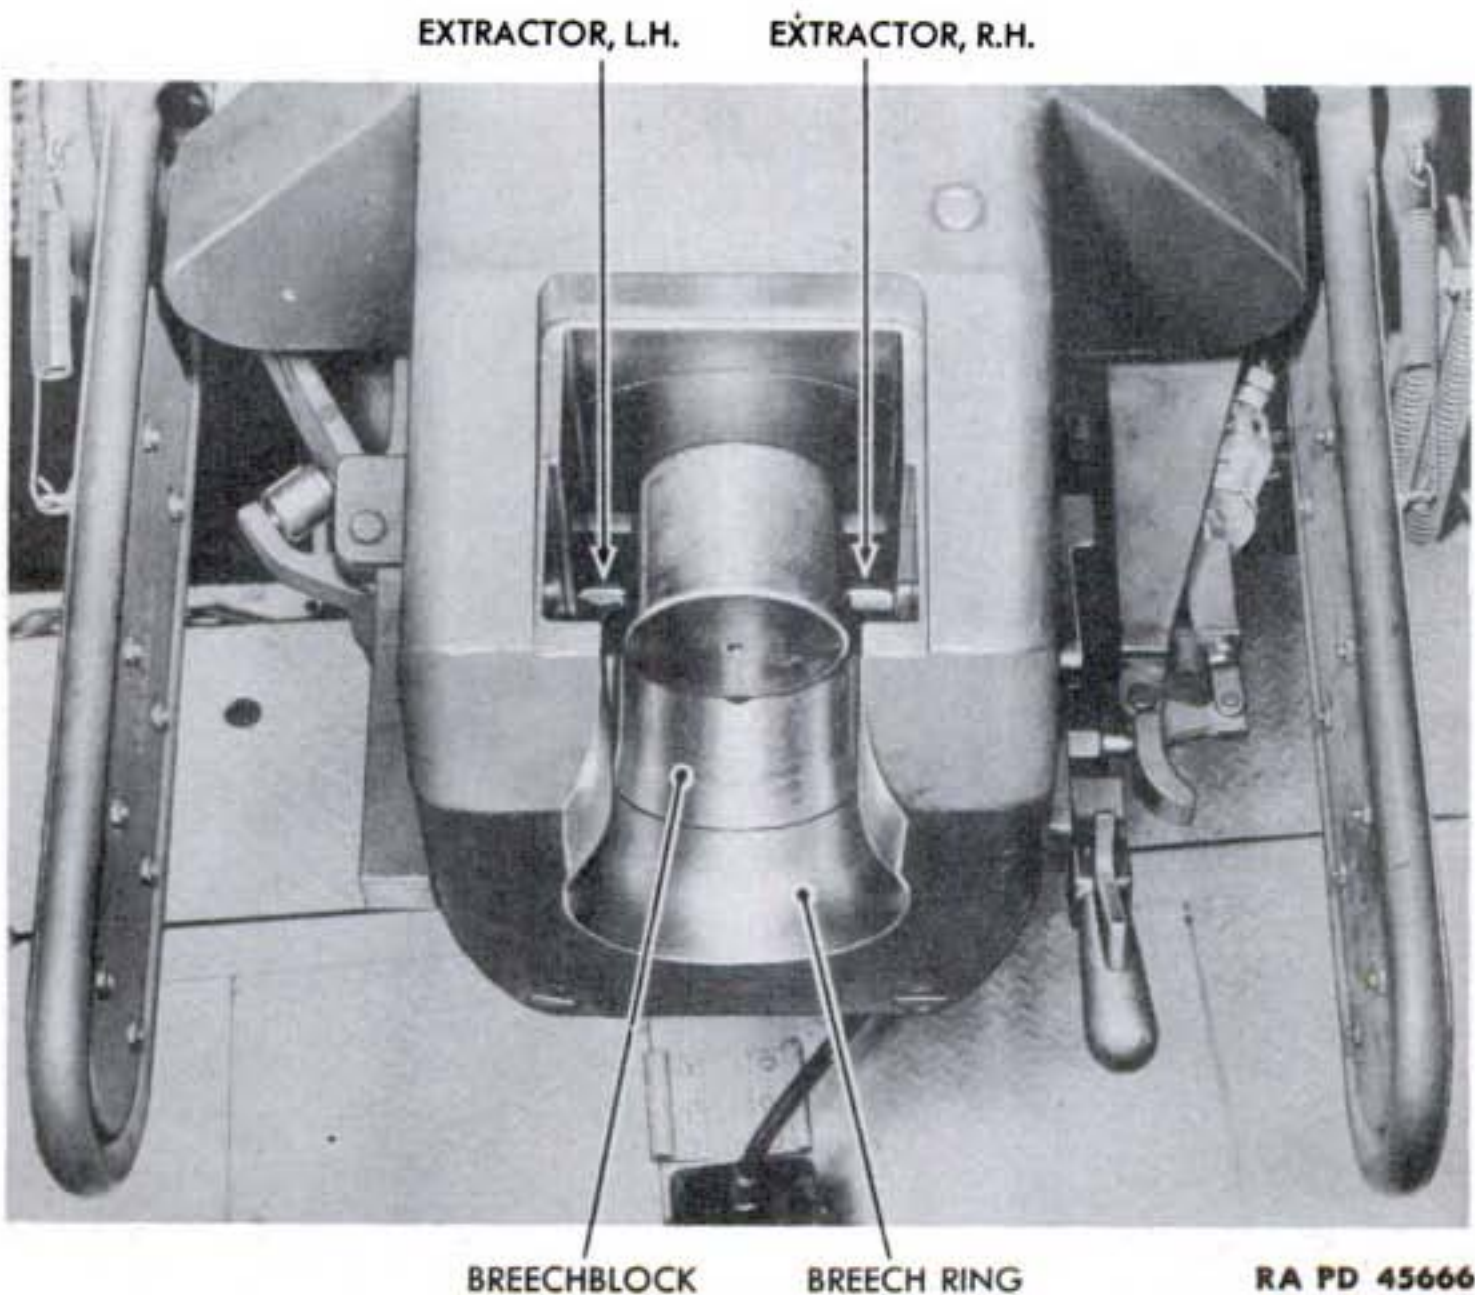

Figure 172—Closing the Breech by Loading a Round
(2) Push breech operating handle down until a distinct click can be heard and then lift breech operating handle up and latch it on the operating handle stop.
d. Closing Breech by Loading (fig. 172).
(1) Insertion of a round into the firing chamber with sufficient force to push extractors forward unlocks the breechblock. **NOTE:** *Do not allow the fingers or hands to enter the breech recess. Failure to observe this may result in injury.* Round must be inserted with a forward and upward movement of the arm using the palm of the